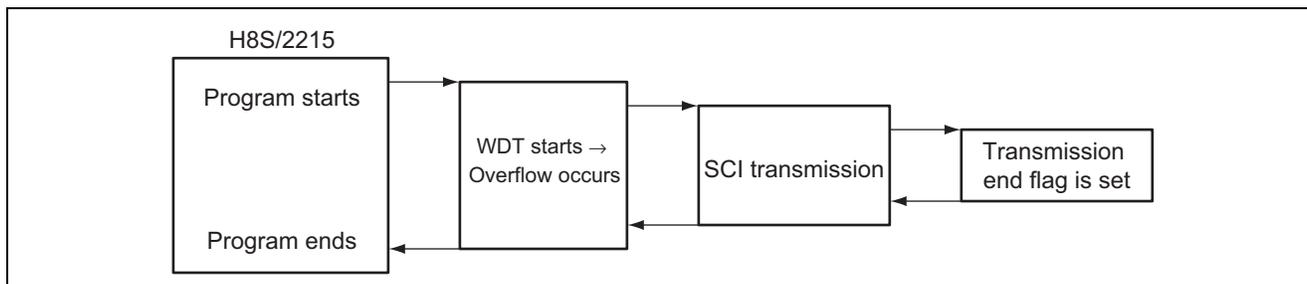

Figure 1 Example of Handling Multiple Interrupts
1. As shown in figure 1, an overflow interrupt (primary interrupt) is generated by the watchdog timer (WDT) which operates in interval timer mode.